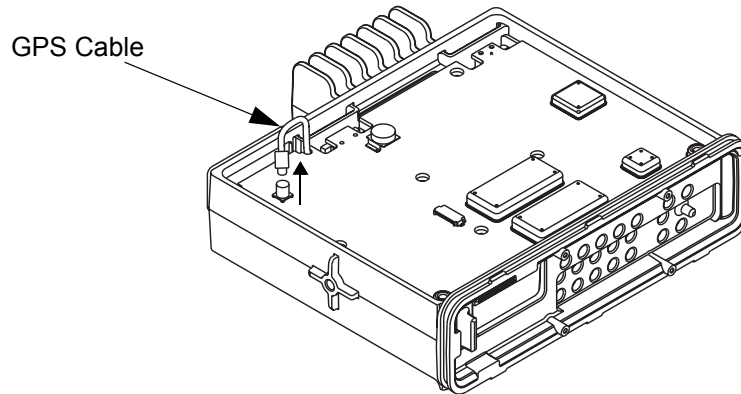

Figure 5-7 GPS Cable Removal
5. For GPS models, disconnect the GPS cable from the radio as shown in Figure 5-7.